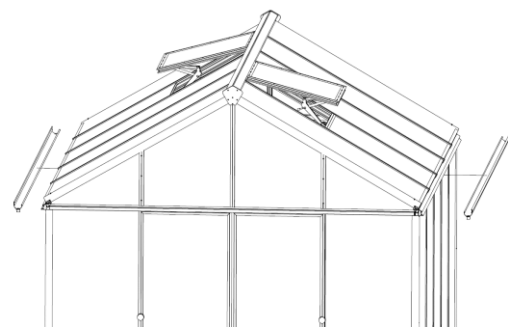

fig. 75
- position the two rain gutters (**item 7.5**), paying attention to whether the round downpipe socket are to be installed at the front or rear! (*fig. 75*)